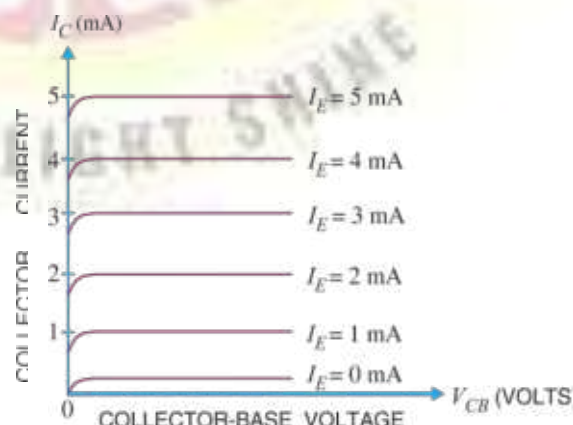

Fig. 3.12
2. Output characteristic. It is the curve between collector current I_C and collector-base voltage V_{CB} at constant emitter current I_E . Generally, collector current is taken along y-axis and collector-base voltage along x-axis. Fig. 3.12 shows the output characteristics of a typical transistor in CB arrangement.